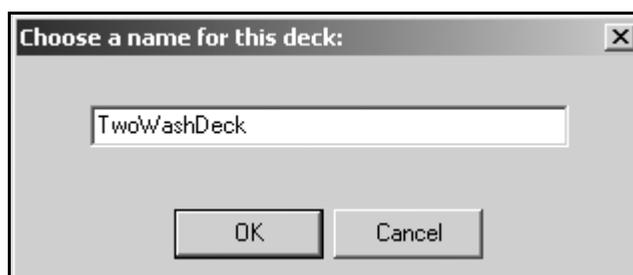

Figure 3-13. Choose a name for this deck
2. Select **New Deck**. Choose a name for this deck appears (Figure 3-13).